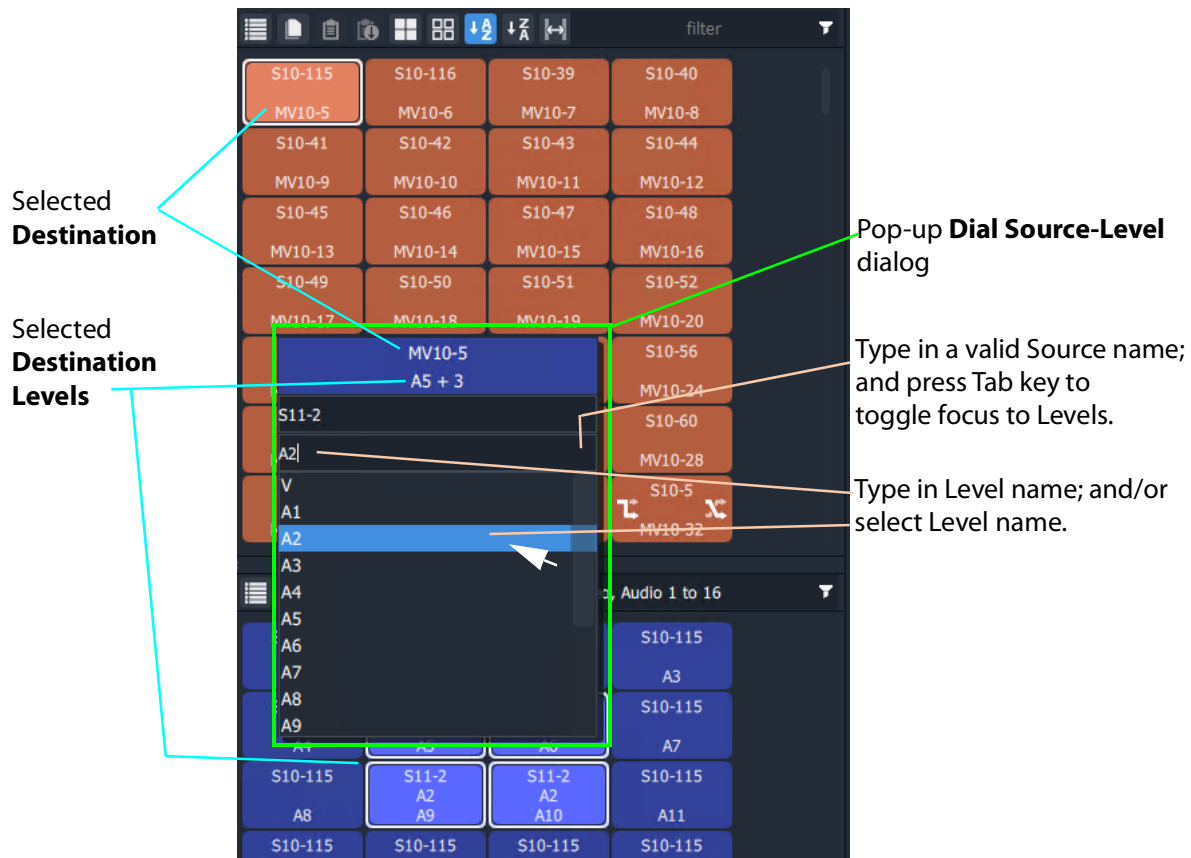

Fig. 11-24: Dial Source-Level Dialog
name and Level. (See Figure 11-24.)
- 6 When the required (and valid) Source name is in the upper text box of the dialog, press the Tab key. (See Figure 11-24.)